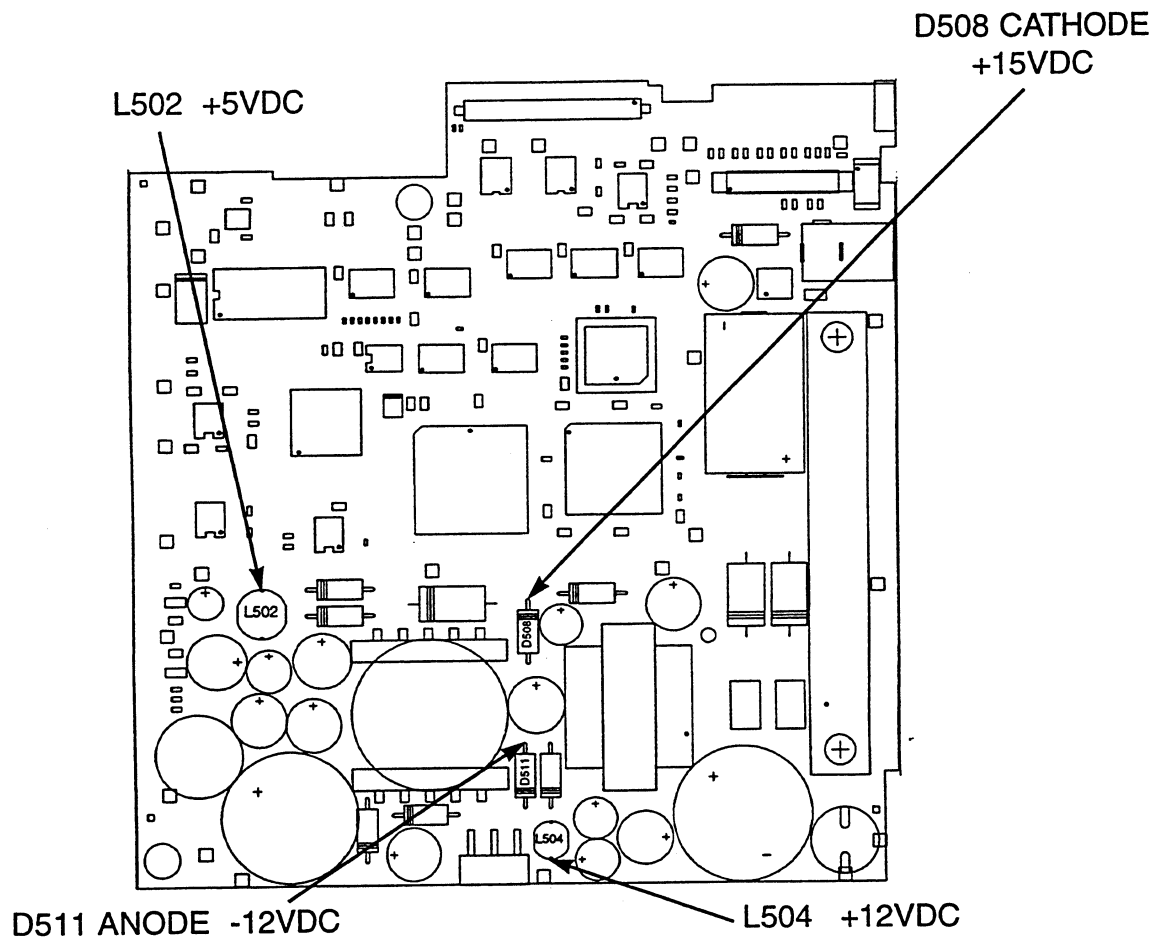

Figure 6. CPU Board Testpoints (Top View)
1. Check the DC voltage between D511 and ground as shown in Figure 6. The voltage should be between -9.60 and -14.40 volts. If the voltage is out of the limits specified, replace the CPU board.
2. Check the DC voltage between L502 and ground as shown in Figure 6. The voltage should be between 4.8 and 5.2 volts. If the voltage is out of the limits specified, replace the CPU board.
4. Check the DC voltage between L504 and ground as shown in Figure 6. The voltage should be between 9.6 and 14.4 volts. If the voltage is out of the limits specified, replace the CPU board.
6. Check the DC voltage between D508 and ground as shown in Figure 6. The voltage should read between 12 and 18 volts. If the voltage is out of the limits specified, replace the CPU board.